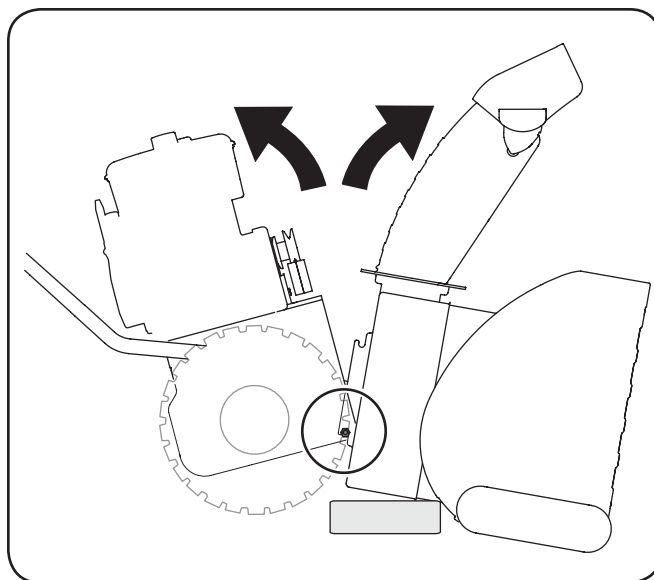

Figure 7-7
6. a. Block the impeller with a piece of wood to prevent it from spinning and use a 1/2" wrench to remove the hex screw and washer from the center of the pulley on the auger housing. See Figure 7-7.
b. Lift the brake bracket assembly out of the pulley groove and slide the pulley assembly off the posts of the auger pulley adapter to remove the old belt. Refer to Figure 7-7.